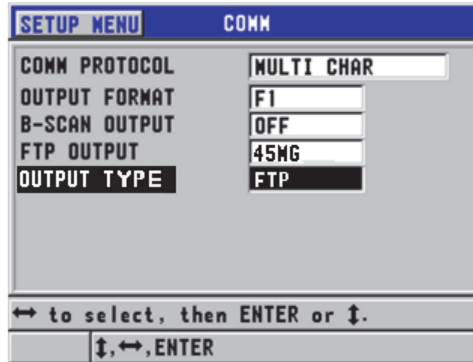

Figure 8-3 The COMM screen
2. In the **COMM** screen (see Figure 8-3 on page 147):